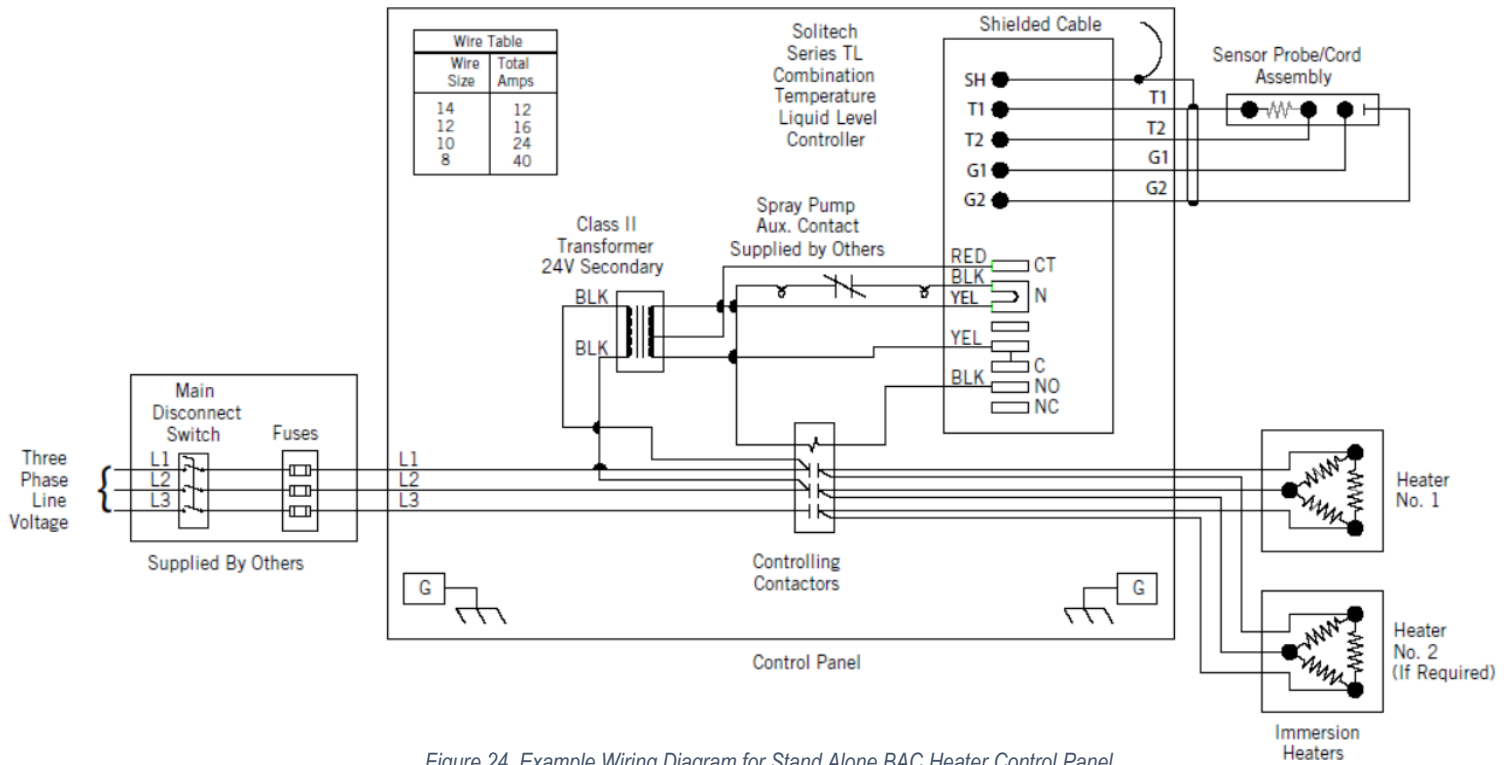

Figure 24. Example Wiring Diagram for Stand Alone BAC Heater Control Panel
- Bolt the safety cage to the ladder using flat washers and locknuts. Orient all fasteners with bolt heads inside safety cage. See **Figure 24, Detail A through D** and refer to **Table 2** for the quantity of bolting locations for different safety cage heights.